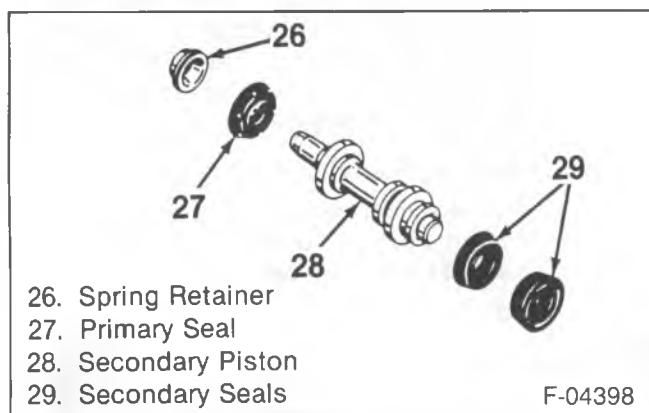
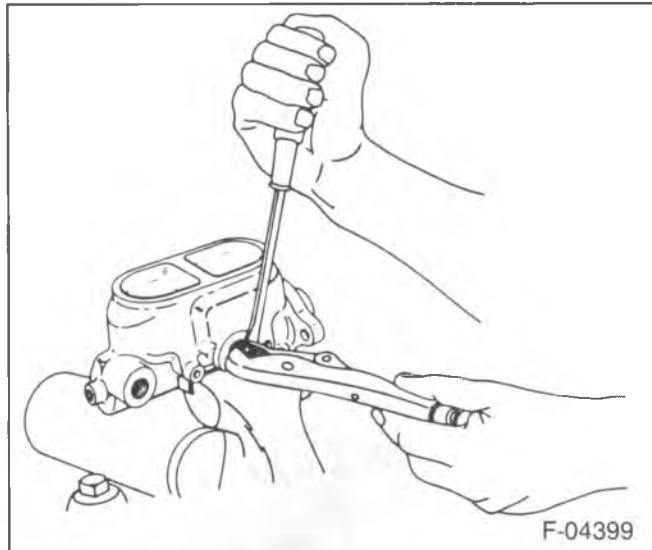

Figure 16—Secondary Piston Assembly
Figure 17—Removing Tube Seats
5. Secondary piston (28).
6. Secondary seals (29) from the secondary piston (28) (figure 16).
7. Spring retainer (26) and primary seal (27).
8. Spring (25).
9. Tube seats (if necessary) (figure 17).
- 1. Spring (25).
- 2. Primary seal (27) and spring retainer (26) onto the secondary piston (28) (figure 16).
- 3. Secondary seals (29) onto the secondary piston (28).
- 4. Secondary piston (28).